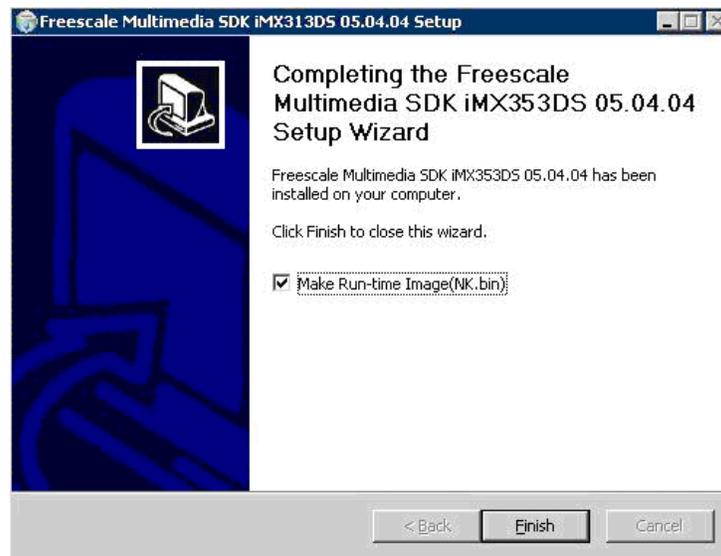

Figure 1-4 Completing the Installation
6. In the final installation window (Figure 1-4) you can select whether to do a clean build for the Windows CE OS Image automatically.